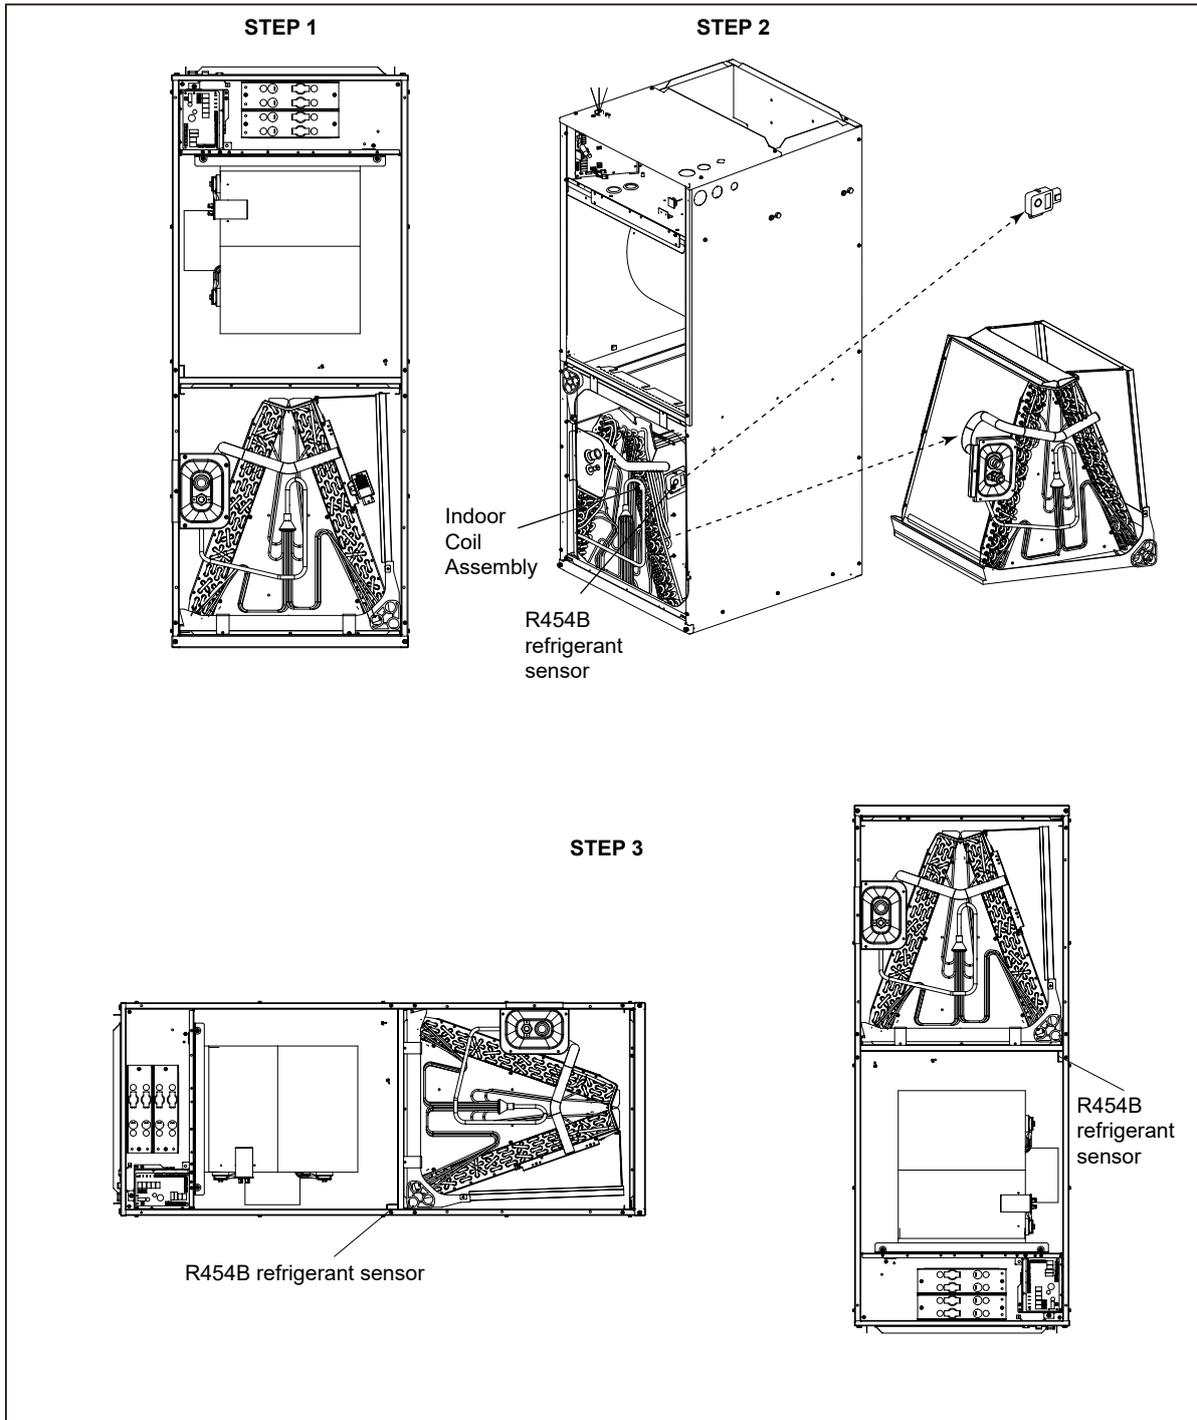

Fig.3-10 Vertical Downflow & Horizontal Left Applications Conversion
4. Reinstall the refrigerant sensor at the location shown in Fig.3-10.
A vertical upflow unit may be converted to horizontal left by removing indoor coil assembly and the refrigerant leak detection sensor. Reinstall the indoor coil and the refrigerant sensor for left hand air supply. See Fig.3-10.
- Reinstall the indoor coil 180° from original position. Ensure the retaining channel is fully engaged with the coil rail. See Fig.3-10 and 3-11.
2. Pull out the coil with refrigerant sensor (Figure 3-10, Step 2).
3. Unscrew and remove the refrigerant sensor and housing from the evaporator coil. Then place and screw in the refrigerant sensor housing at the sensor position shown in the Figure 3-10, Step 3).
4. Replace the coil in the correct orientation and secure in place. Plug the refrigerant sensor wire back to the controlboard(Figure 3-10, Step 3).